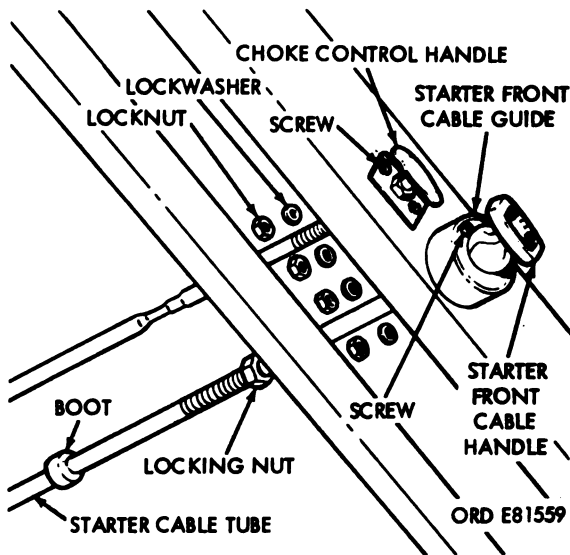

Figure 2-13. Starter cable tube-adjusting stop and locking nut.
*c. Loosen starter cable tube-adjusting stop and locking nut at forward end of starter cable tube (fig. 2-13) and adjust tube and plate (b above) forward as far as possible.*
a. If repair or replacement of front starter cable tube, cable-adjusting stop, boot, front sleeve bushing or rear sleeve bushing is required, slide tube to the rear, off adjusting end of starter cable guide, and remove from vehicle (fig. 2-13).